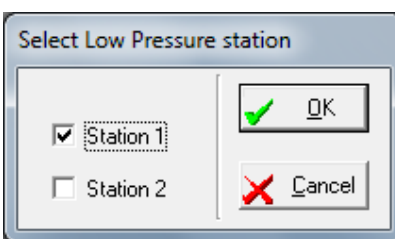

Figure 15. Low pressure station selection dialog box
- When the proper station(s) have been selected (Figure 15), click **OK**.